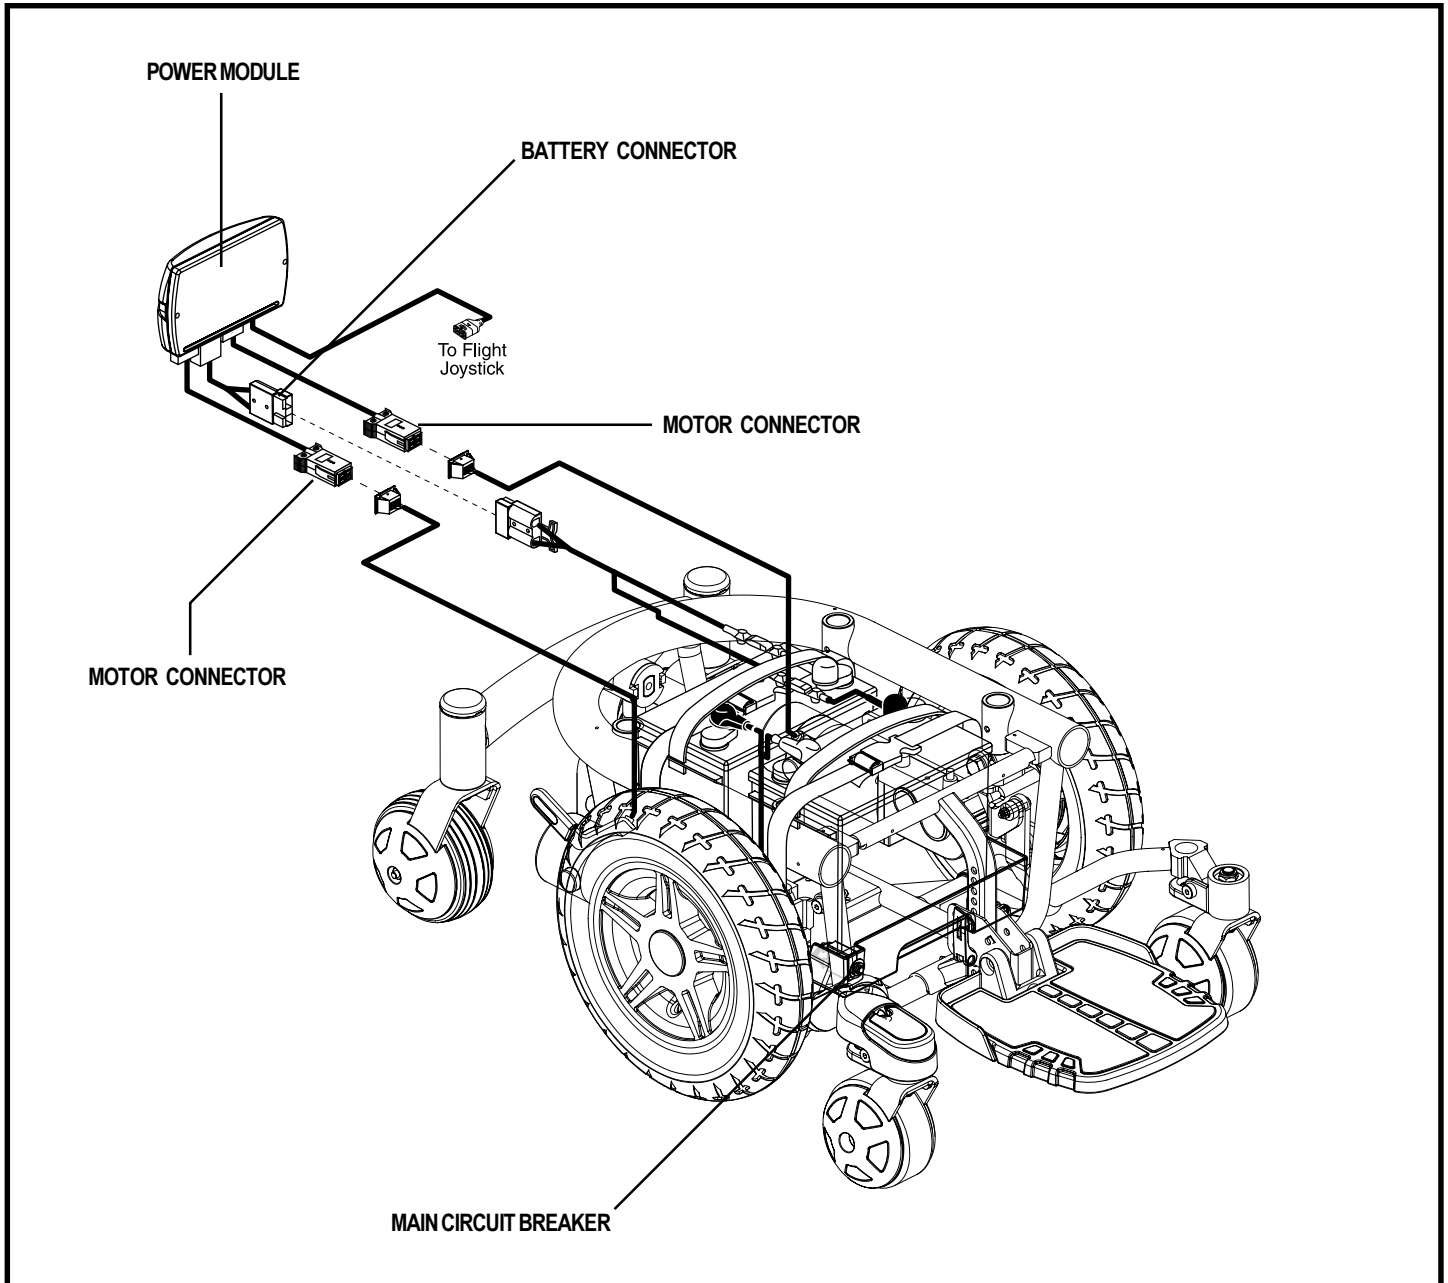

Figure 7. Jazy 600 Electrical Components
The electrical components are located inside the power base. The main circuit breaker is located on the front of the battery tray. The controller connector(s) are located inside the power base. See figure 7.
8. Plug the controller connector into the power base. See figure 7.
3. Disconnect the controller connector from the power base. See figure 7.